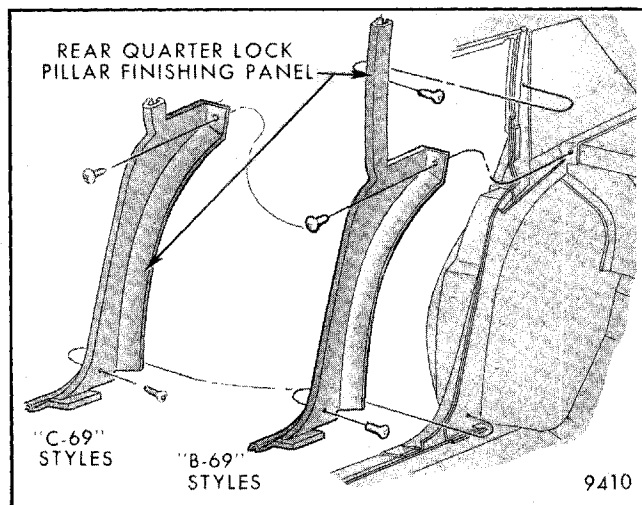

Fig. 6-8-Quarter Trim Assembly Attachment - B and C-69 Styles
- Remove attaching screws from trim panel (Fig. 6-8) and remove trim panel. On B,C styles, slide top of trim finishing panel from engagement with side roof rail garnish molding (B styles) or body lock pillar finishing molding (C styles).